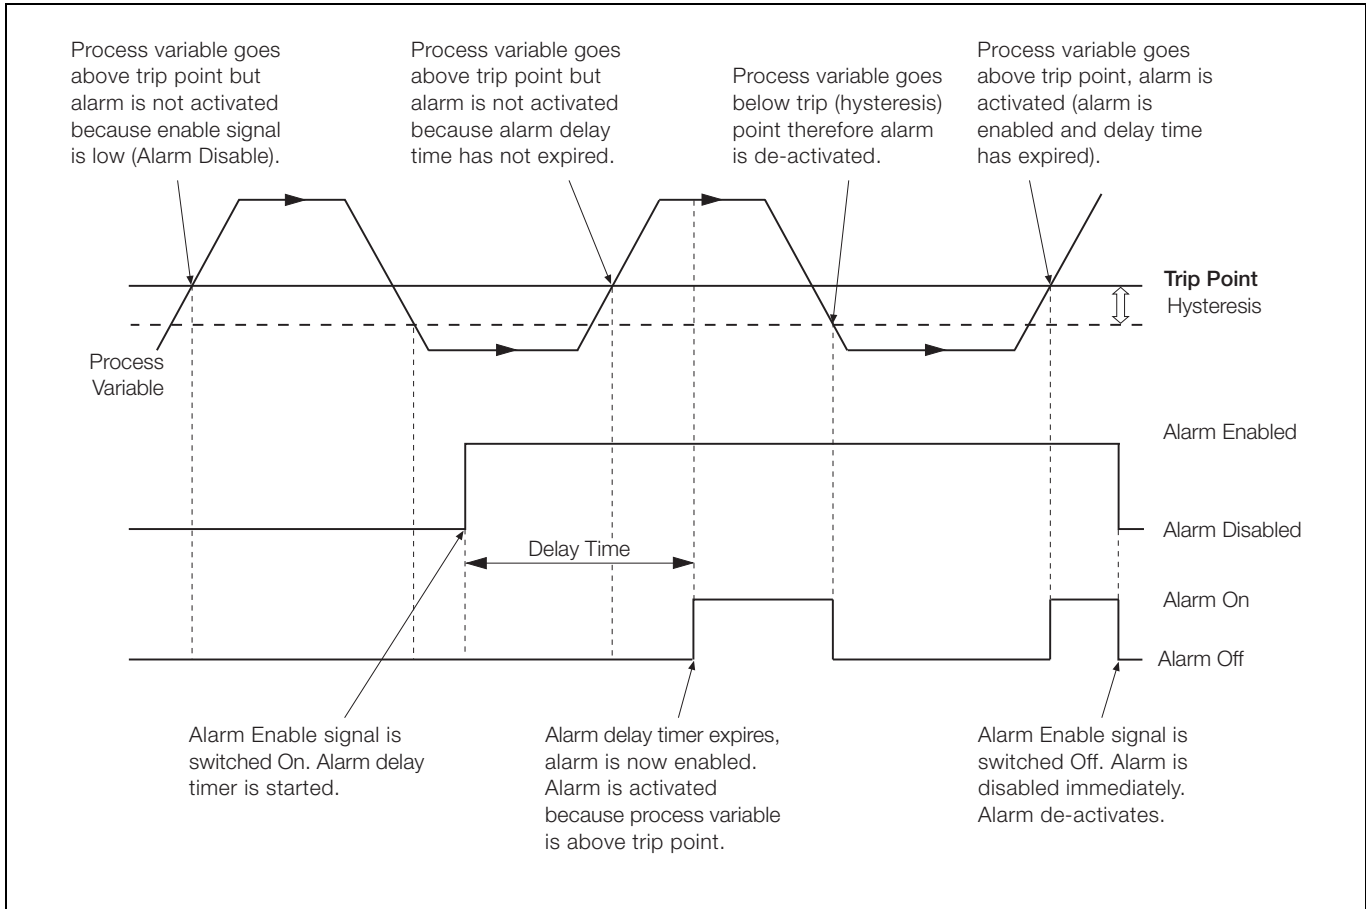

Fig. 4.15 Delayed High/Low Process Alarms
- Fast/Slow rate – see Fig. 4.15, page 79